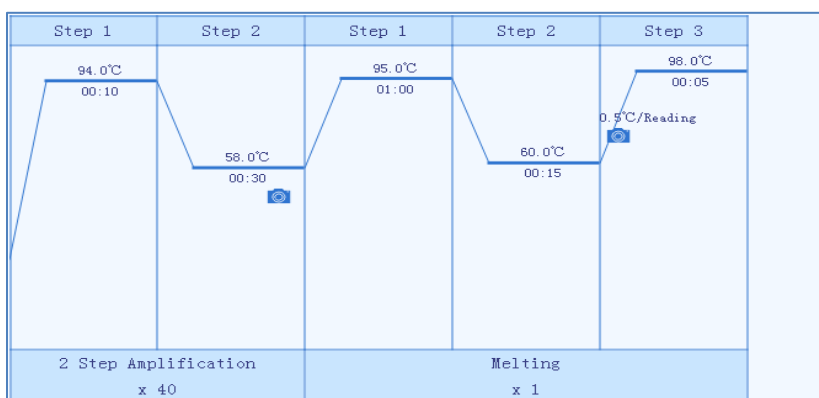

Figure E-4.4. Run Monitoring Diagram - Temperature Program
- If user select the **Temperature** option in the run monitoring option bar, run monitoring diagram will display the temperature program of the current experiment, as shown in figure E-4.4.